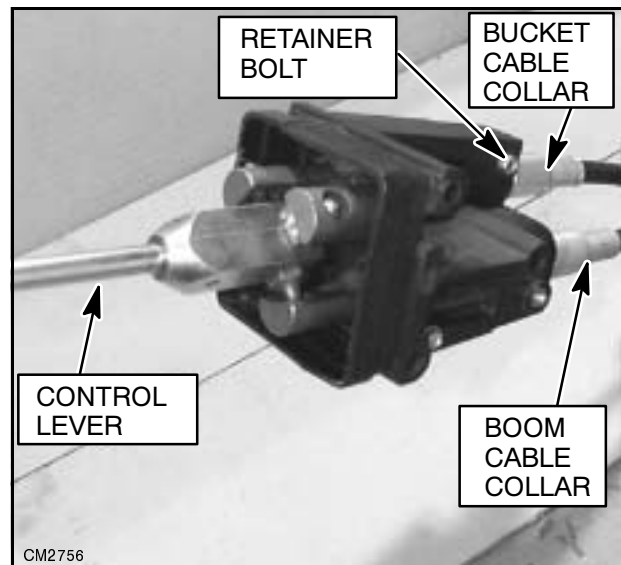

Figure 24 Attaching Control Cables to Control Lever
1. Slide the rubber control boot up out of the way. Orient the controller as shown in Figure 24.